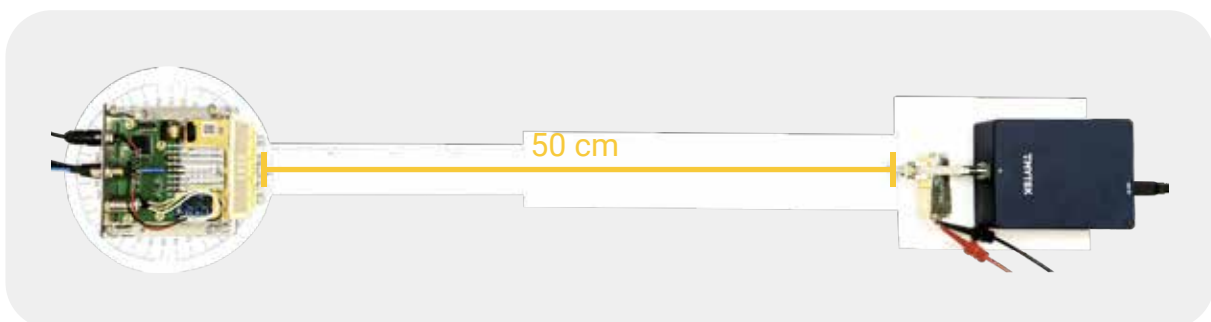

Figure 12. Configuration
- f. Make sure there is at least a 50 cm distance between the 5G FR2 array antenna and the COCO antenna as shown in Figure 12.